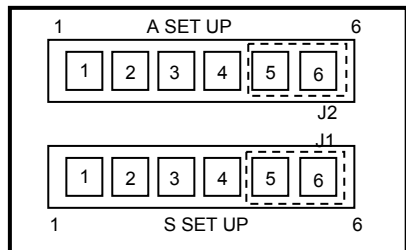

Figure 21
11. Position the jumpers on pins **5** and **6** of the **J1 (S SET UP)** and **J2 (A SET UP)** headers. (Refer to figure 21).